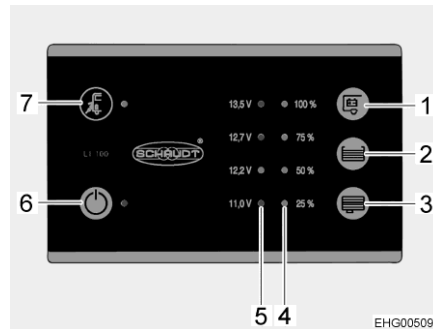

Fig. 115 Panel (LT 100)
The yellow LED at the mains connection symbol "⚡" (Fig. 115,7) is lit when the vehicle is connected to an external mains supply. In this case, the LED will also be lit when the panel is switched off.
- ▷ For safety reasons, the 12 V main switch (Fig. 115,6) cannot be switched on while the vehicle engine is running. This means that the panel cannot be operated during the journey.
The 12 V main switch (Fig. 115,6) switches the panel and the 12 V power supply of the living area on and off.
- Press switch "⏻" (Fig. 115,6): The 12 V living area power supply is switched on. The LED lights up green.
- Press switch "⏻" (Fig. 115,6) again: The 12 V living area power supply is switched off. The LED goes out.
The LED array (Fig. 115,5) displays the battery voltage of the living area battery as follows:
- Press the button " " (Fig. 115,1): The battery voltage of the living area battery is displayed.
The LED array (Fig. 115,4) displays the fill level of the fresh water tank or of the waste water tank.
Press the button "☰" (Fig. 115,2): The fill level of the fresh water tank is displayed by lit LEDs.
Press the button "☷" (Fig. 115,3): The fill level of the waste water tank is displayed by lit LEDs.